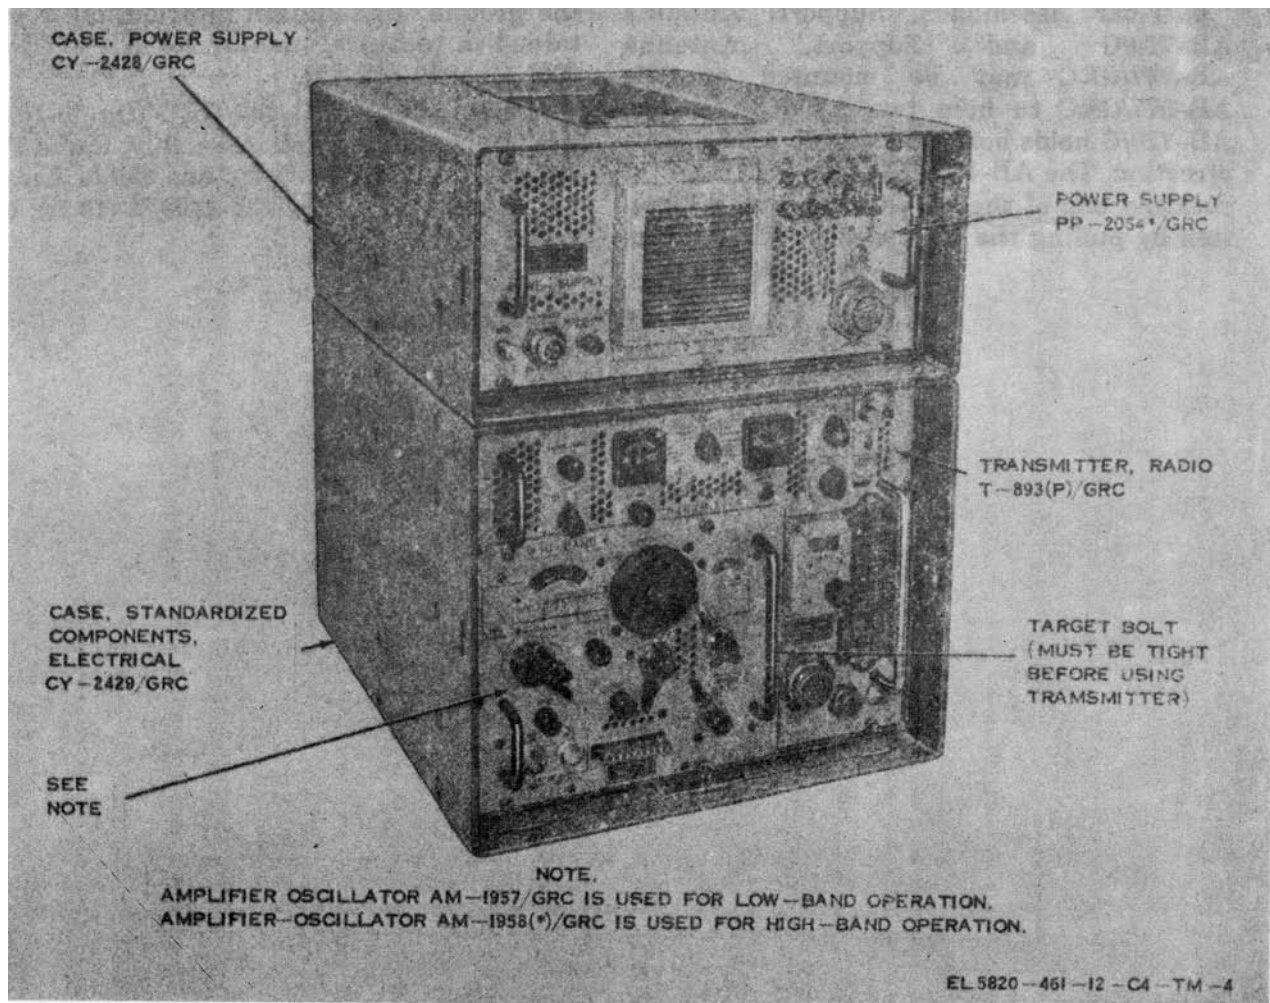

Figure 1-4. Transmitting equipment, major components.
a. The transmitter portion of the radio set is illustrated in figure 1-4. Nylon slides on the inside of each equipment case permit the components to slide easily in and out of the cases. Transmitter, Radio T-893(P)/GRC contains a square opening in the lower left side for the installation of Amplifier-Oscillator AM-1957/GRC or Amplifier-Oscillator AM-1958(\*)/GRC.